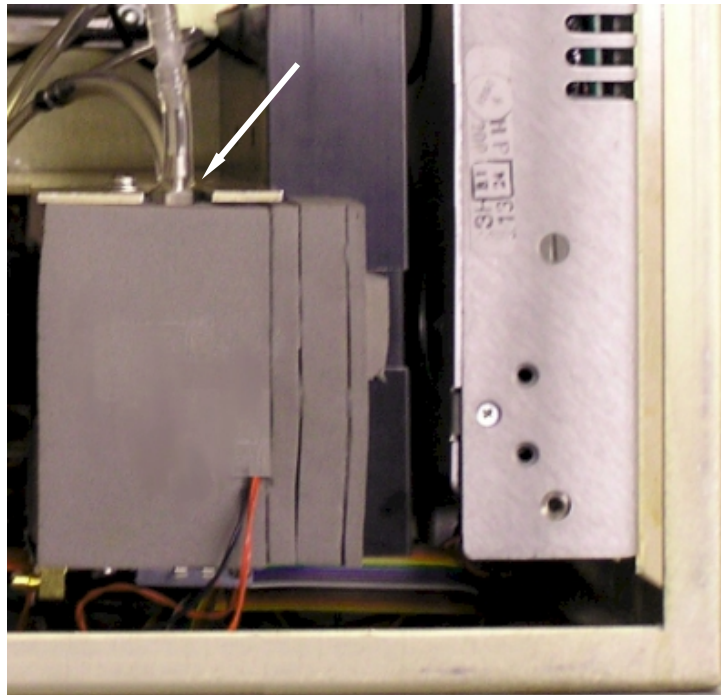

Figure 8-12
3. Identify the stainless steel barbed orifice fitting from Figure 8-12 indicated by the arrow.